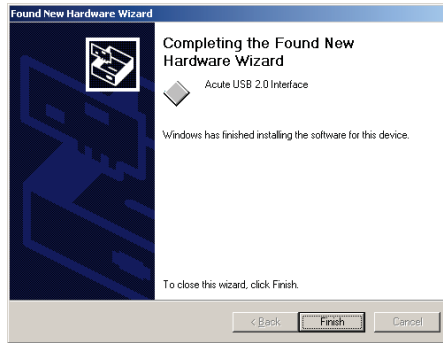

Figure 5
- (6) Click “Finish” (Figure 5) after the Windows installs the DSO driver.